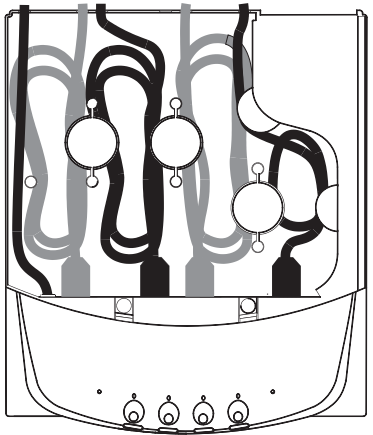

Figure 3 - Cord Management (top view)
- A **cord storage compartment** is designed into the PowerManager to offer users the option of neatly arranging power cords to the connected equipment. See Figure 3.